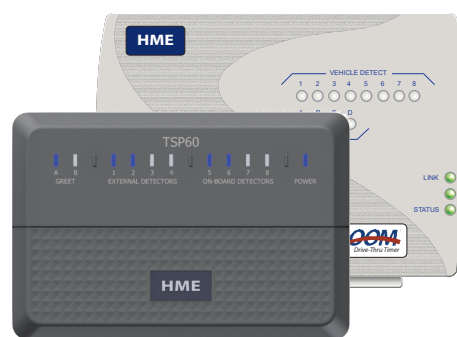

Fig. 1.1
- **Timer Signal Processor (TSP)**: This device receives and sorts lane event data from the peripheral detectors, and sends it to the Control Unit for processing. This device is abbreviated throughout this guide as TSP. Fig. 1.1 shows two models TSP60 (front) and TSP50 (rear).